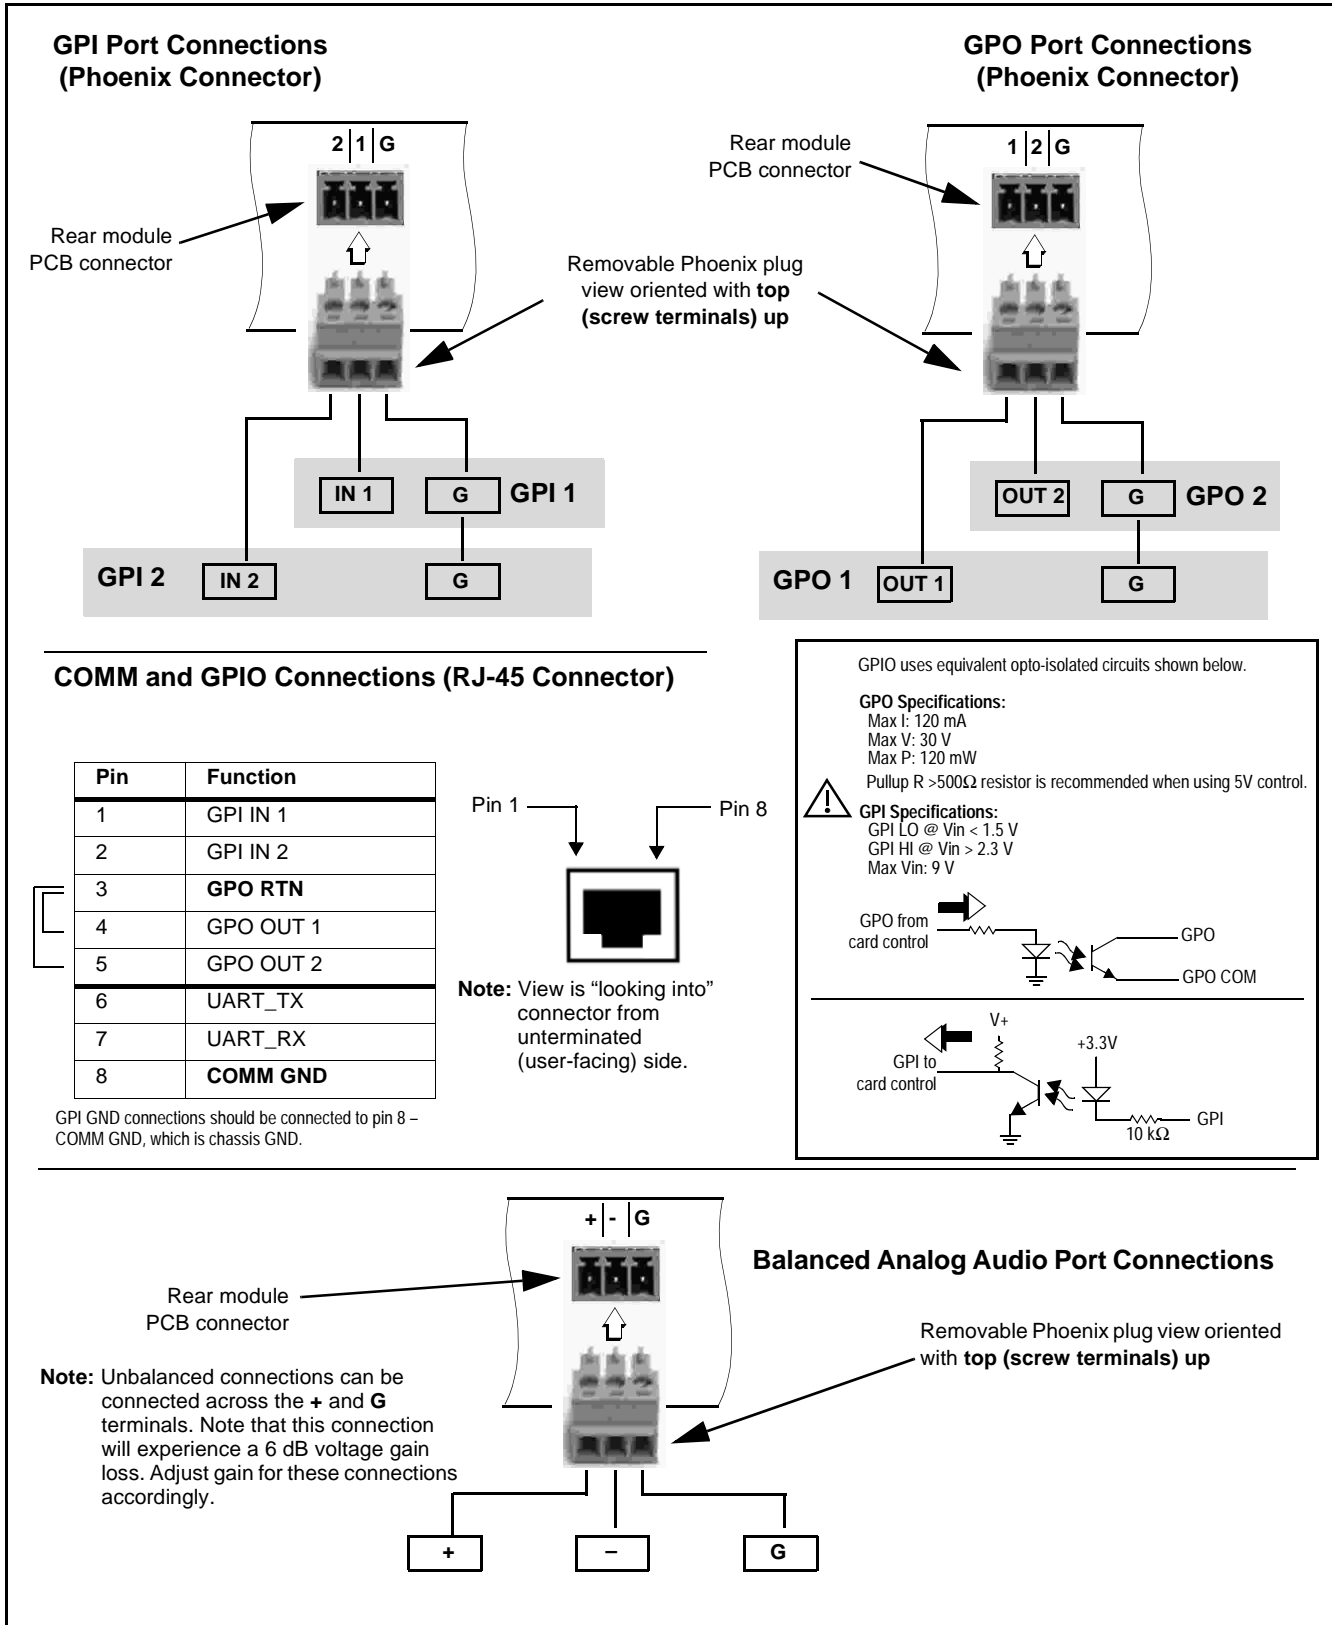

Figure 2-2 COMM, GPIO, and Analog Audio Connector Pinouts
Figure 2-2 shows connections to the card multi-pin terminal block connectors. These connectors are used for card serial comm, GPIO, and balanced analog audio connections.
**Note:** It is preferable to wire connections to plugs oriented as shown in Figure 2-2 rather than assessing orientation on rear module connectors. Note that the orientation of rear module 3-wire audio connectors is not necessarily consistent within a rear module, or between different rear modules. If wiring is first connected to plug oriented as shown here, the electrical orientation will be correct regardless of rear module connector orientation.